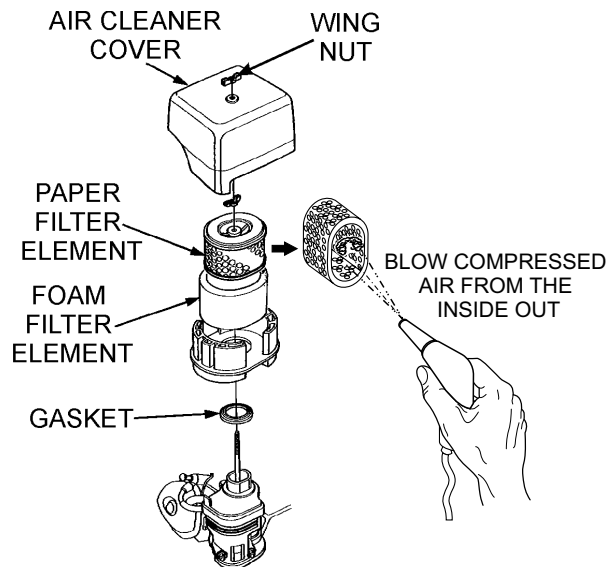

Figure 17. Air Filter
The Honda GX160U1SM12 and GX160U1SMX4 engines are equipped with a replaceable, high-density paper air cleaner element. See (Figure 17) for air cleaner components.
2. To clean or replace air filter loosen the wing nut on the air filter housing (Figure 17), remove the cover and take out air filter cartridge. If only cleaning of the air filter is desired blow through the air filter cartridge from the inside, moving a jet of dry compressed air up and down until all dust is removed.